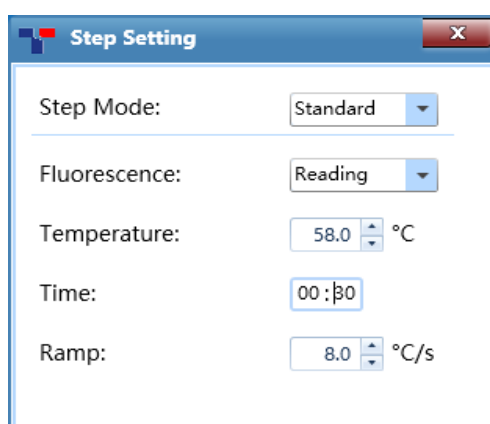

Figure D-5.6a Step Setting dialog box – Standard step mode
5. **Step Setting:** double click any step in the step list or in temperature program area to edit the selected step, the application software will pop up the **Step Setting** dialog box for user to edit the selected step, as shown in figure D-5.6a.
- Standard Step Mode:** user can set the *Temperature*, *Time*, *Ramp* for the standard step and decide whether to read its *Fluorescence*, as shown in figure D-5.6a.